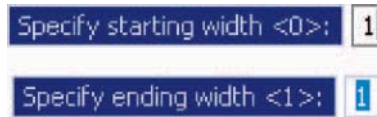

Fig. 3.28 Dynamic Input – first example – Polyline – entering widths
- Another prompt field appears. At the keyboard *enter* the required width and *right-click*. Then *left-click* and *enter* **ending width** or *right-click* if the **ending width** is the same as the **starting width** (Fig. 3.28).